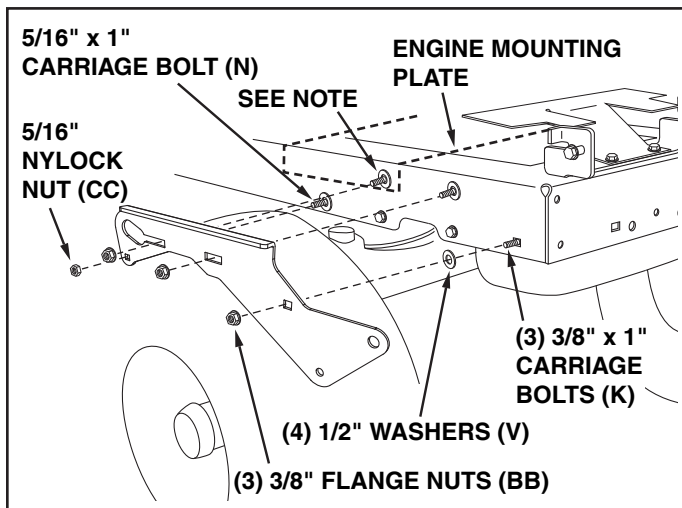

FIGURE 3 RIGHT SIDE VIEW
STEP 3: (SEE FIGURE 3)
- Fasten the R.H. Side Plate (bend facing out) to the front three holes in the tractor frame using three 3/8" x 1" carriage bolts (K), three 1/2" washers (V) (see note) and three 3/8" flange nuts (BB). For the rear hole, use a 5/16" x 1" carriage bolt (N), a 1/2" washer (V) and a 5/16" nylock nut (CC). Place the 1/2" washers (V) between the tractor frame and the side plate. Repeat for L.H. side plate.